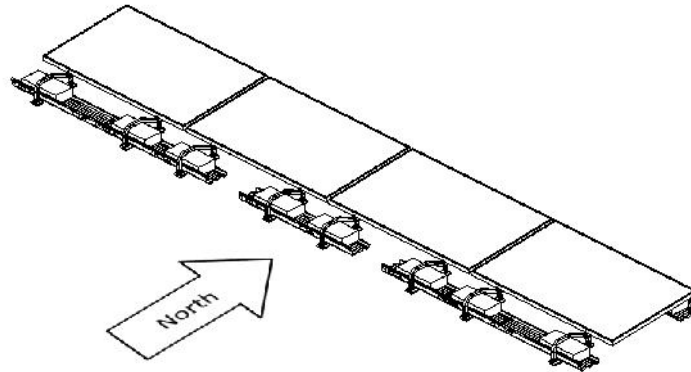

Figure 8 Install Required Ballast
3.18. Install required ballast into the second row of Ballast Trays and bend up the end tabs located at the end of each Ballast Tray (Figure 8). Reference the Racking Construction Set to determine ballast quantity and proper placement per Ballast Tray.